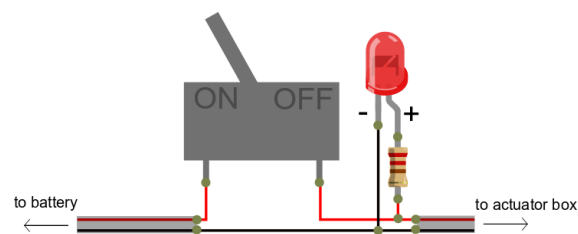

Figure 13: Soldering scheme for power supply assembly
2. Solder the 2-pole-cable (3.12), the 1-pole-wire (3.14), the switch (3.25), the LED (3.33) and the resistor (3.32) together according to the following scheme in Figure 13. Caution: LEDs are poled. Always solder the longer leg to the positive pole.